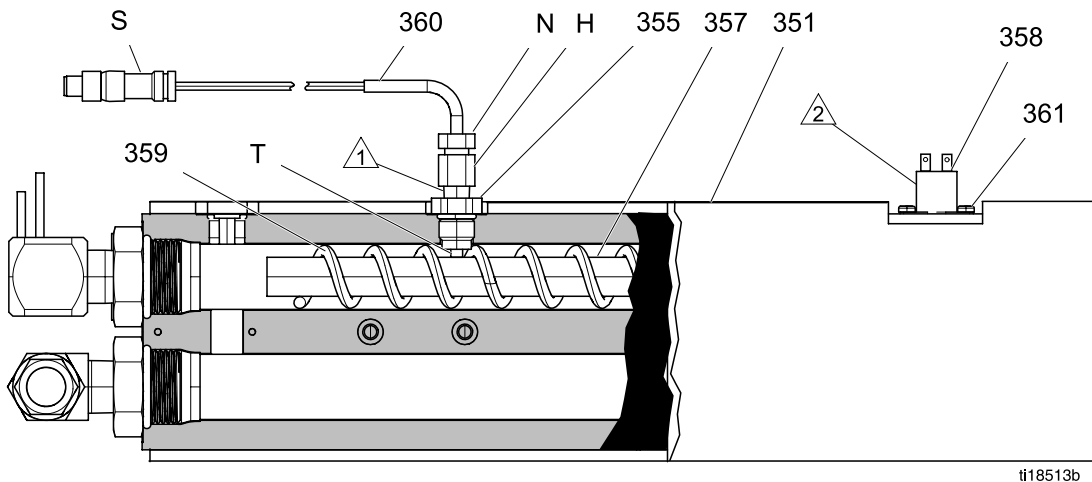

Figure 25
16. To remove heater element, first remove RTD (360) to avoid damage. See step 7, Replace RTD, page 85.
17. Remove heater element (357) from housing (351). Be careful not to spill any fluid left in housing. See Fig. 25.
19. Install new heater element (357), holding mixer (359) so it does not block RTD port (P).
20. Reinstall RTD (360), Replace RTD, page 85.
22. Replace heater shroud (266).